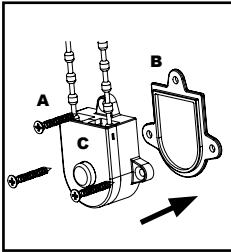

Fig 6
To install the Tension Device (A), position the Tension Device on a flat surface (window frame, wall, etc.) so that the chain and tension device do not interfere with the raising and lowering of the blind. The chain must be taut, but still operable (Fig. 6). DO NOT ALLOW FOR ANY SLACK. DO NOT TWIST, CROSS OR SLANT THE CHAIN. THE CHAIN WILL NOT WORK IF NOT PROPERLY INSTALLED.